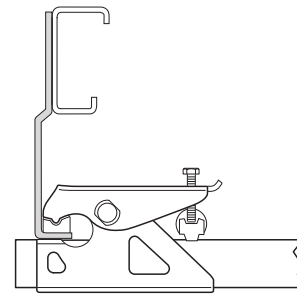
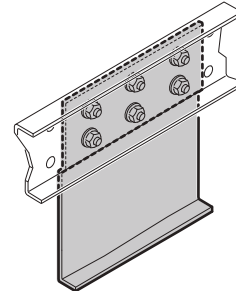

Fig. 8
Fig. 9
- Mounting plates for height compensation for standard chassis with L- or U-profile and / or for bridging struts with standard mounting system (Fig. 8) (Fig. 9).